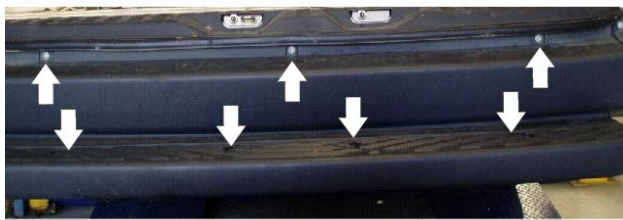

Figure 3 – Remove scrivets and torx screws.
2. Remove the torx screws x 3 and scrivets x 4, from the bumper, as shown in Figure 3.